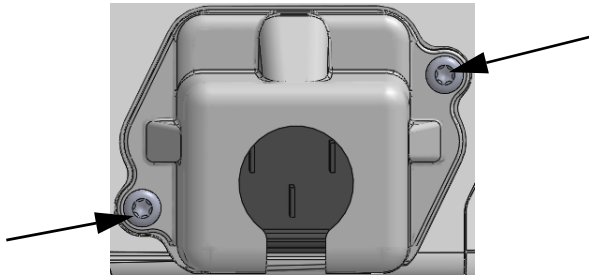

Figure 3-5 HemoSphere power entry cover - screw locations
- 1 If the power entry cover is already installed, remove the two screws (figure 3-5) that attach the power entry cover to the rear panel of the monitor.